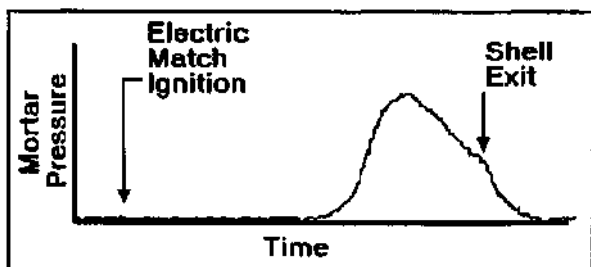

Figure 1. Typical mortar pressure versus time curve for a shell firing.
Figure 1 is a typical mortar pressure versus time curve for a shell firing. The time at which the shell leaves the mortar is seen as a sudden change in the downward slope of the pressure curve. This is caused by the propelling gases escaping behind the exiting shell. The application of current to the electric match begins the data recording process and is shown on the graph. The firing current was sufficient to cause the electric match to fire in less than 1 mSec (0.001 sec) (2)(a). There is also a slight delay in the pressure sensor noting the beginning of the more rapid pressure drop. This time delay depends on the speed of sound in the high temperature lift gases, and is also less than 1 mSec. Because these two times tend to cancel out and are both small compared to the exit time for the shells, they were ignored.